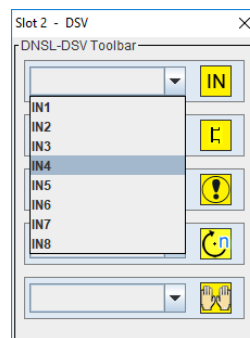

Fig. 5-3
- Select the element. (Fig. 5-3)